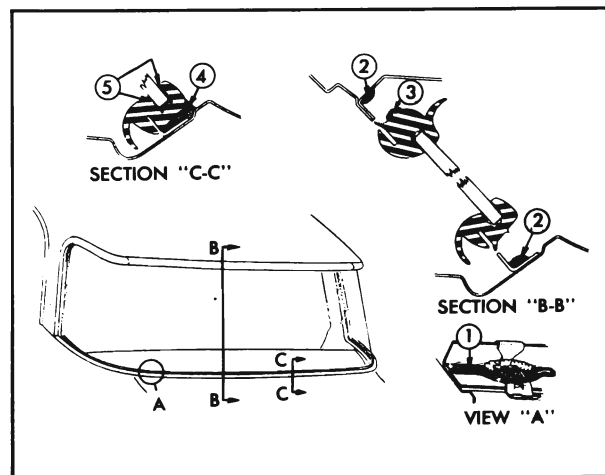

Figure 4-6—Back Window Sealing
9. Using a pressure type applicator (pistol type oiler) apply weatherstrip adhesive (black) between rubber channel and glass on inside and outside of glass around entire perimeter of glass (see "5" in Section "C-C", Figure 4-6). Application of adhesive should be continuous with no skips.
2. Check installation of lower reveal molding clips at pinchweld and retaining flanges and replace clips, where necessary. If replacing clips, apply medium-bodied sealer to opening rabbet prior to installing clips (see "1" in View "A", Figure 4-6).
3. Apply a continuous ribbon of medium-bodied sealer (approximately 1/2 inch wide by 1/4 inch thick) on wall of rabbet completely around opening (see "2" in Section "B-B", Figure 4-6).
5. Apply a continuous ribbon of medium-bodied sealer (approximately 1/2 inch wide by 1/4 inch thick) to base of rubber channel across top and down sides of rubber channel (see "3" in Section "B-B", Figure 4-6).
8. Using a pressure type applicator, apply sufficient medium-bodied sealer to completely fill the wedge shaped opening between rubber channel and body across bottom of channel (see "4" in Section "C-C", Figure 4-6).